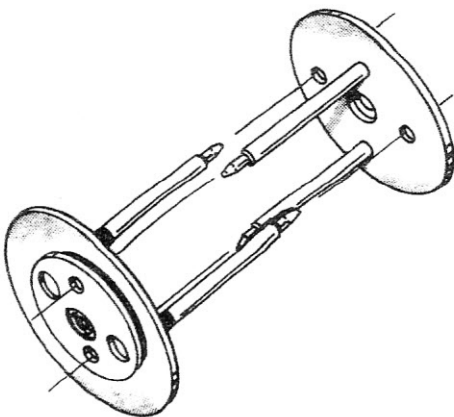

Figure 3-4. Paperwinder Take-up Reel
- (1) Turn the Paperwinder and Teleprinter Power Switches to their OFF positions.
- (2) Support the underside of the paper wrapped around the Paperwinder Take-up Reel with one hand, and with the other hand pull outward on the Reel Release Knob.
- (3) While still holding the Reel Release Knob, move the Take-up Reel toward the Reel Release Knob to free the left reel hub from the motor drive shaft.
- (4) When the left reel hub has cleared the motor drive shaft, remove the Paperwinder Take-up Reel from the Paperwinder Mounting Bracket and release the knob.
- (5) Vertically position the Paperwinder Take-up Reel on a flat surface and pull upward on the top reel disc, separating the two parts of the Take-up Reel as shown in Figure 3-4. The paper can now be removed.
- (6) Re-assemble the Paperwinder Take-up Reel by inserting the tapered ends of each pair of rods into their respective holes on the opposite reel disc. See Figure 3-4.